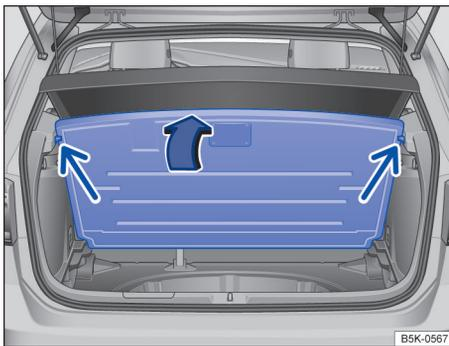

Fig. 151 In the luggage compartment: Luggage compartment floor raised and secured.
- Lift the luggage compartment floor and secure it in the stops on either side of the luggage compartment → fig. 151 (small arrows).